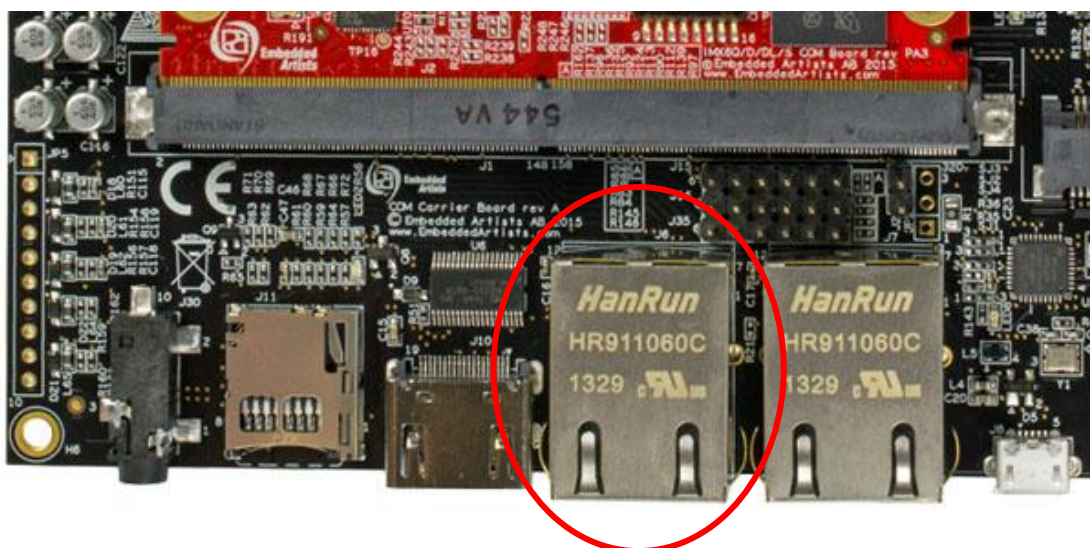

Figure 16 - Ethernet connector on developer's kit
1. Make sure you have an Ethernet cable connected to the board. Connect it to the first RJ45 connector as illustrated in Figure 16.